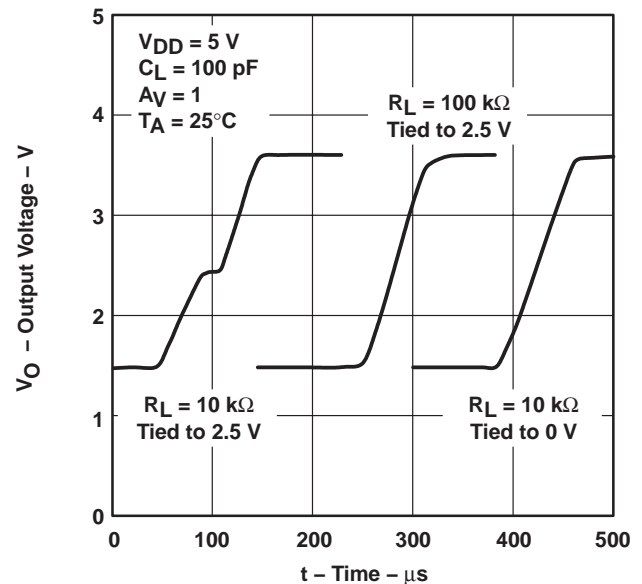

Figure 40
- Where the load is referenced. When the load is referenced to either rail, this condition does not occur. The distortion occurs only when the output signal swings through the point where the load is referenced. Figure 40 illustrates two 10-k Ω load conditions. The first load condition shows the distortion seen for a 10-k Ω load tied to 2.5 V. The third load condition shows no distortion for a 10-k Ω load tied to 0 V.
- Load resistance. As the load resistance increases, the distortion seen on the output decreases. Figure 40 illustrates the difference seen on the output for a 10-k Ω load and a 100-k Ω load with both tied to 2.5 V.